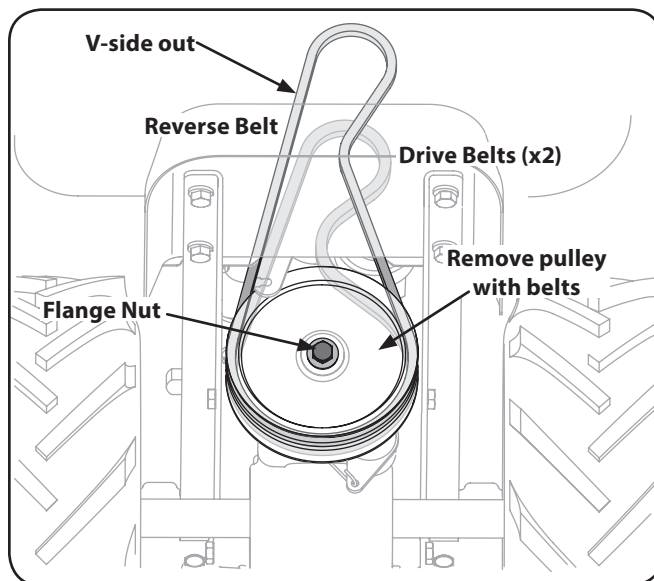

Figure 7-5
6. Remove the flange nut securing the transmission drive pulley, then remove the pulley along with the reverse belt and the two drive belts. See Figure 7-5.